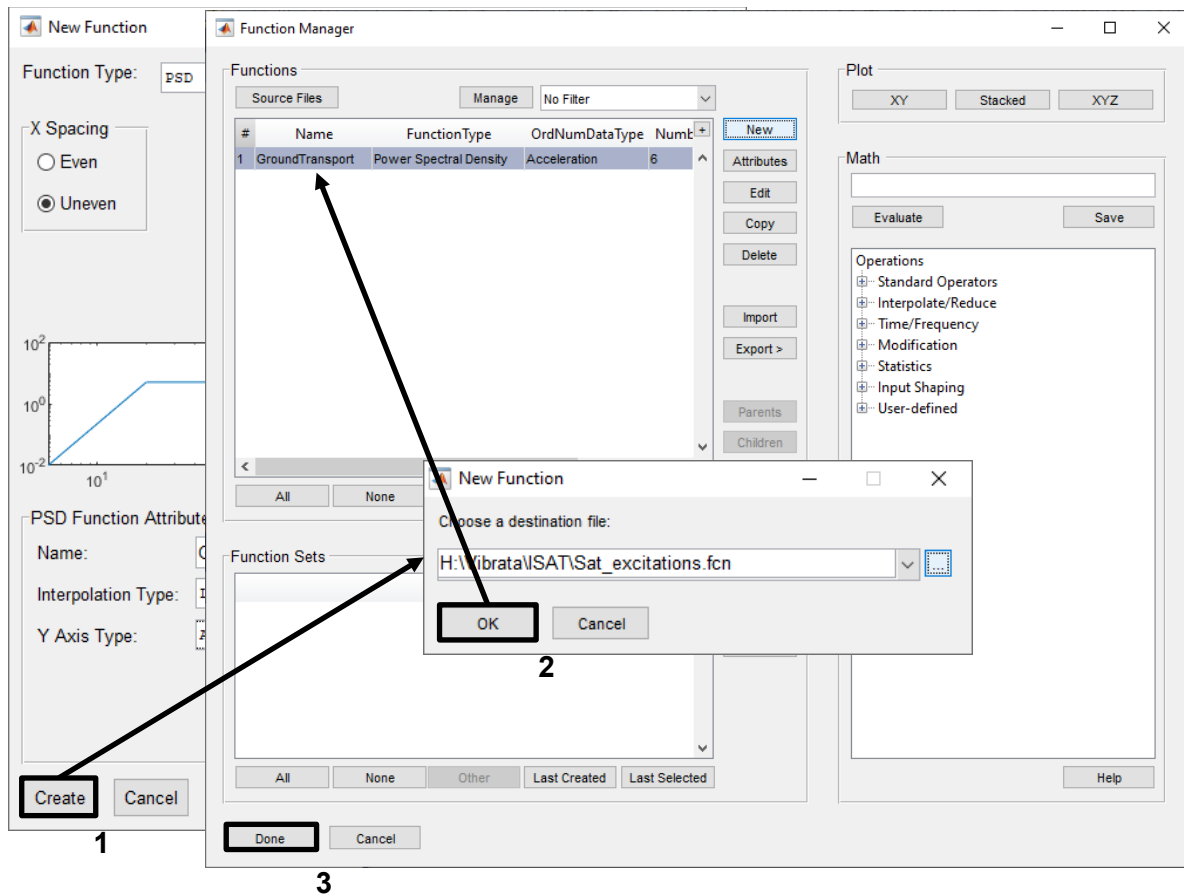

Figure 4-39. Create and save the function, and finish by clicking **Done**.
- When all the data and attributes are set correctly, click **Create** on the *New Function* dialog and save the function as shown in Figure 4-39. The new function will appear in the main Function Manager dialog, ready for use in the Vibrata events you will create in the following examples. Click **Done** to return to the Event Manager.